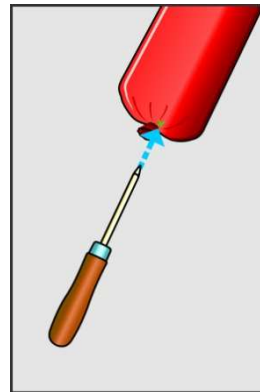

Fig. 4-1
1. Prepare a hole in the middle of primer towards to center of primer using priming tool. (Fig. 4-1)